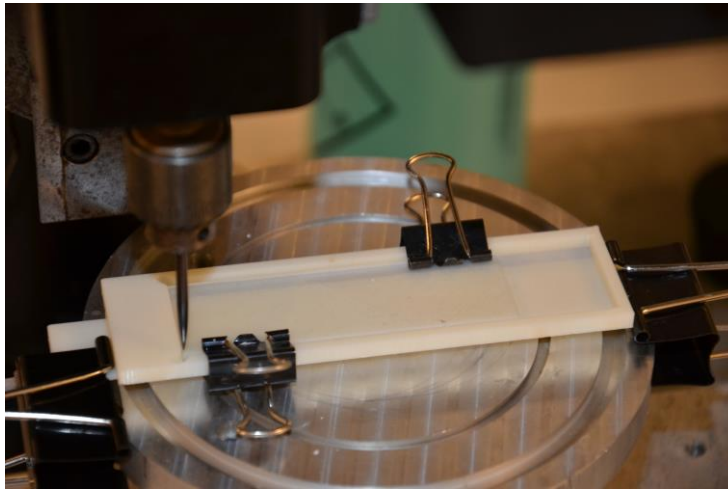

Figure 4 - Using the pointy-tipped scribe to approximately locate the lower left corner of the slide
7. Put the pointy-tipped scribe in the drill chuck and align it visually with the lower-left hand corner of the slide. (figure 4)